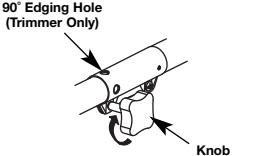

Fig. 15
3. Turn the knob clockwise to tighten (Fig. 15).
For edging (when using the line head cutting attachment with Rapid-Link™ models), lock the release button of the cutting attachment into the 90° edging hole (Fig. 15).